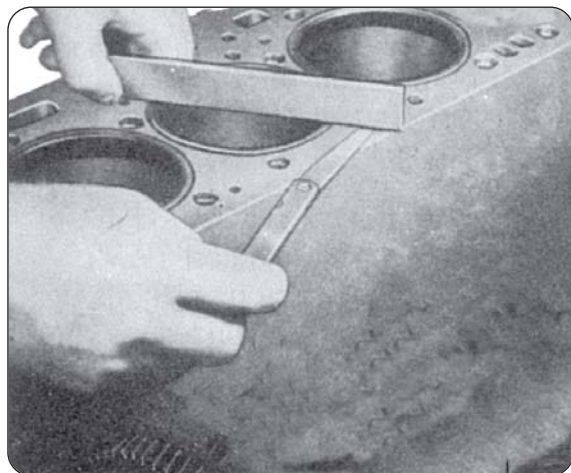

Fig. 11
- d) Check the cylinder sleeve protrusion (Fig.11) to specifications. The top face of the sleeve can be 0.05 mm above the cylinder block face or 0.03 mm below the cylinder block face. To ensure the above dimension, the cylinder sleeve and the cylinder block should be matched.